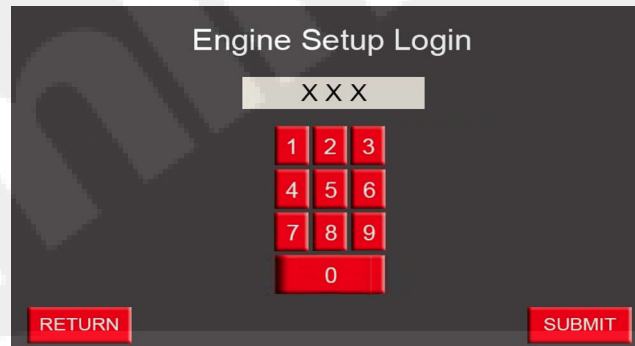

Figure 4-6 Engine Setup Login Screen (Typical)
2. As shown in Figure 4-6, press the soft number keys to enter password "806" in the Engine Setup Login screen.
3. As shown in Figure 4-6, press the soft number keys to enter password “806” in the Engine Setup Login screen.